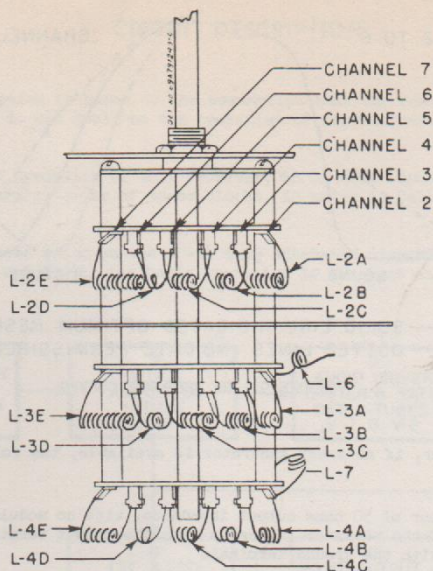

FIGURE 8. ANTENNA, RF AND OSC COIL LOCATIONS
6. Check all high channels (7-13) to determine if zero beat occurs with fine tuner within 45 degrees of mid-setting. See chart above for oscillator frequencies. It may be necessary to adjust coil L-7 (high band oscillator coil, Figure 8) to bring channels 11, 12 or 13 within this range. Adjustment is made by compressing or spreading the coil with an insulated screwdriver. If L-7 is adjusted, it may be necessary to retune trimmer C-11 to channel 10 to bring channels 7 to 10 within the 90 degree range.
7. The low channels (2-6) are adjusted by starting at channel 6 and progressing through channel 2. Touching up a particular coil section is accomplished by spreading or compressing the individual coils. (See Figure 8 for location of various coil sections and chart above for oscillator frequencies).
5. Refer to Figure 4 for the RF trimmer location and to Figure 8 for the locations of the antenna and RF coils. The frequency chart listed previously gives the channel and alignment frequencies.
8. Check channels 7 to 13, noting whether the mid-frequencies of these channels produce maximum amplitude on the curve. If it is necessary to adjust coil L-6 (see Figure 8) on channels 11, 12 or 13 to center the curve properly, trimmer C-4 may have to be retuned on channel 10.
4. Figure 4 shows the location of the RF trimmer, and Figure 8 gives the location of the antenna and RF coils. The frequency chart listed previously gives the channel and alignment frequencies.
7. Check channels 7 to 13, noting whether the mid-frequencies of each channel produce maximum or near maximum reading on the voltmeter. If it is necessary to adjust coil L-6 (see Figure 8) on channels 11, 12 or 13 to center the curve properly, trimmer C-4 may have to be retuned on channel 10.